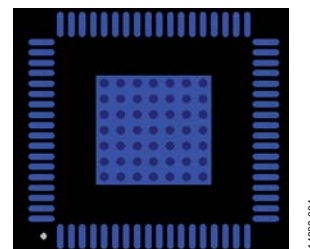

Figure 87. Exposed Pad Layout Example—Top View
- Place vias such that all layers of copper are connected, allowing for efficient heat and energy conductivity. For an example, see Figure 87, which shows 49 vias arranged in a 7 \times 7 grid in the pad area.